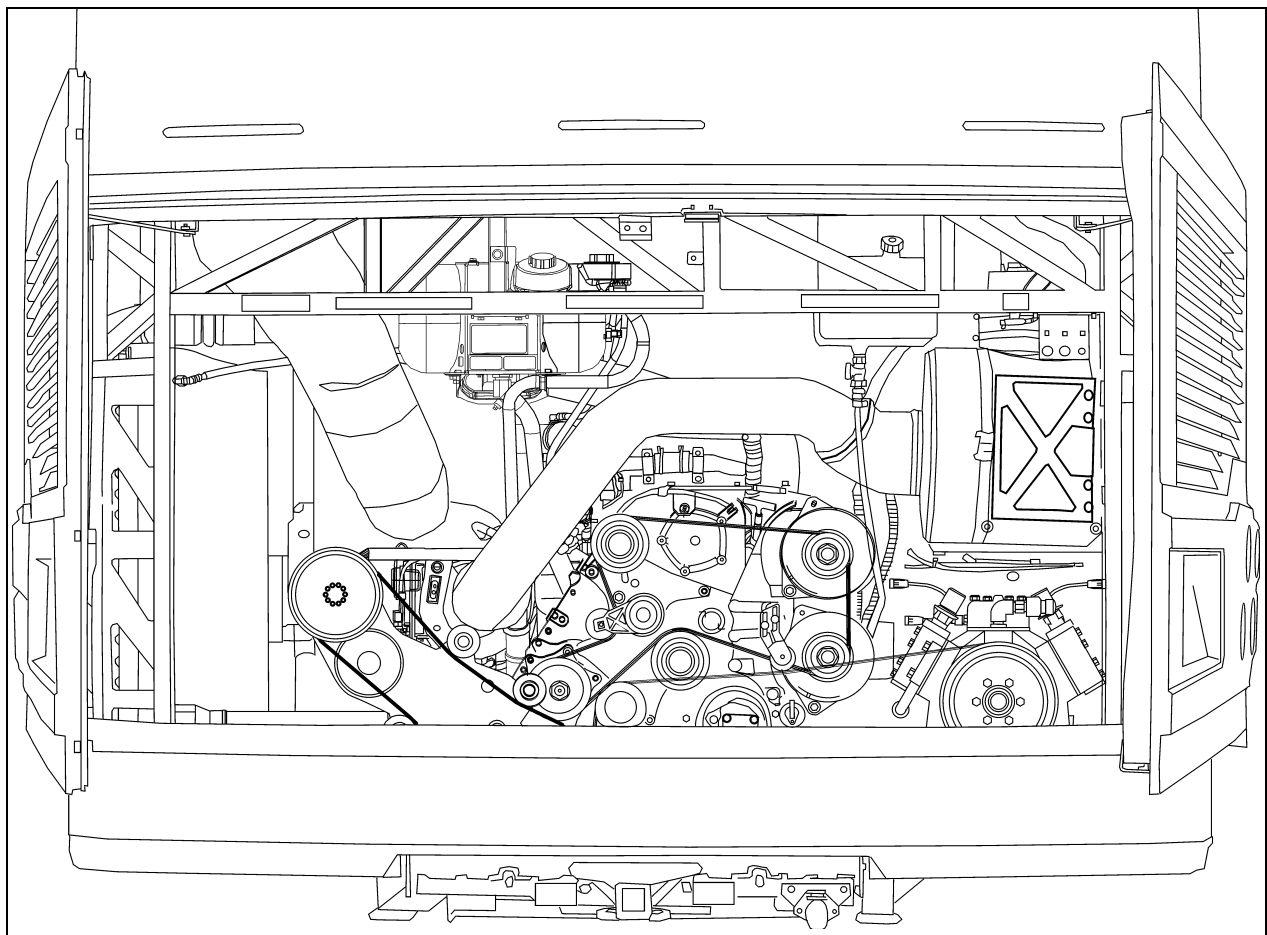

FIGURE 12: ENGINE COMPARTMENT X3 COACHES (TYPICAL)
6. Disconnect and remove the engine-air intake duct mounted between air cleaner housing and turbocharger inlet (1, Fig.12).
7. Disconnect and remove the air intake duct mounted between the air cooler outlet and the engine intake (2, Fig.12).
8. Disconnect and remove section of coolant pipe assembly mounted between the radiator outlet and the water pump inlet (3, Fig.12).
10. Disconnect the electric fan-clutch connector located near the cooling fan right angle gearbox (Fig. 12).
12. Disconnect and remove the air intake duct mounted between the turbocharger outlet and the air cooler inlet (5, Fig. 12).
19. Remove the power steering pump, leaving the supply and discharge hoses connected to it (6, Fig. 12).
20. Disconnect the oil delivery hose from the valve located at the reserve tank drain (7, Fig. 12).